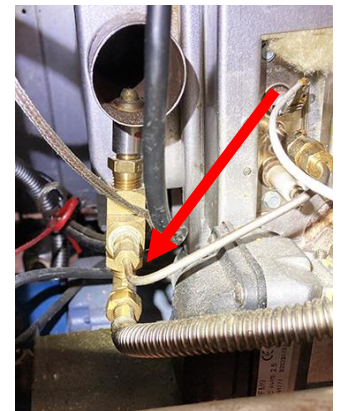

Figure 71
71. Reattach the gas line from the left burner (see Figure 71).